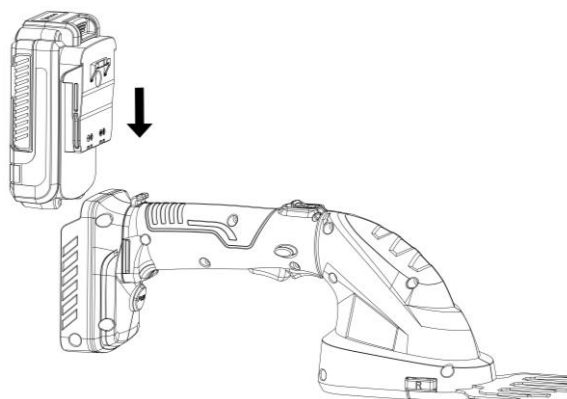
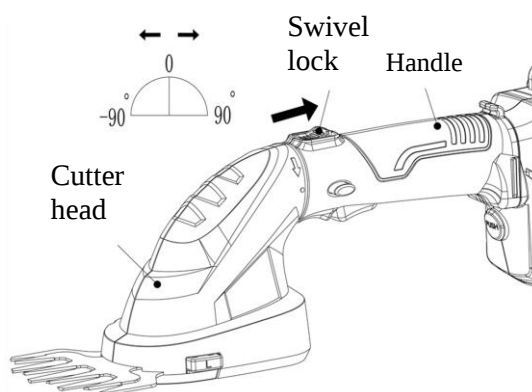

Fig. 3
Fig. 4
4.4- Installing/removing the battery pack (6)
- Insert the battery pack fully into the battery compartment to install it. Refer to Fig. 3.
- To remove the battery pack, press the battery release button (5) and pull it out.
- Firmly hold the handle and slide the swivel lock to release the cutter head. See Fig. 4 for reference.